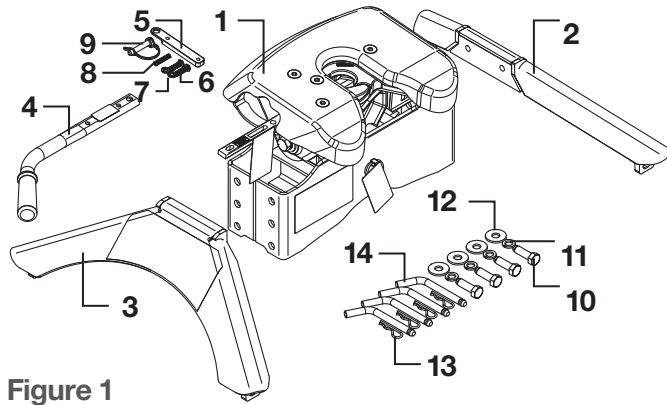

Figure 1
Attach the leg weldments to the mid-section with the supplied hardware, 'Parts List' items 10, 11 and 12. See Figure 1. Depending on which holes are required to achieve proper ride height, attachment of the legs to the mid-section may be easier with the mid-section positioned upside-down.